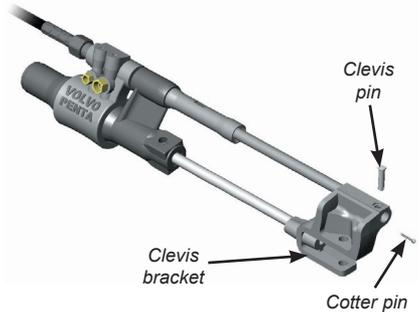

Fig B19 - Steering cylinder in fully extended position
- Use the helm to extend the steering cylinder to full hard over as shown in Fig B19 (it may be necessary to run the engine to do this).